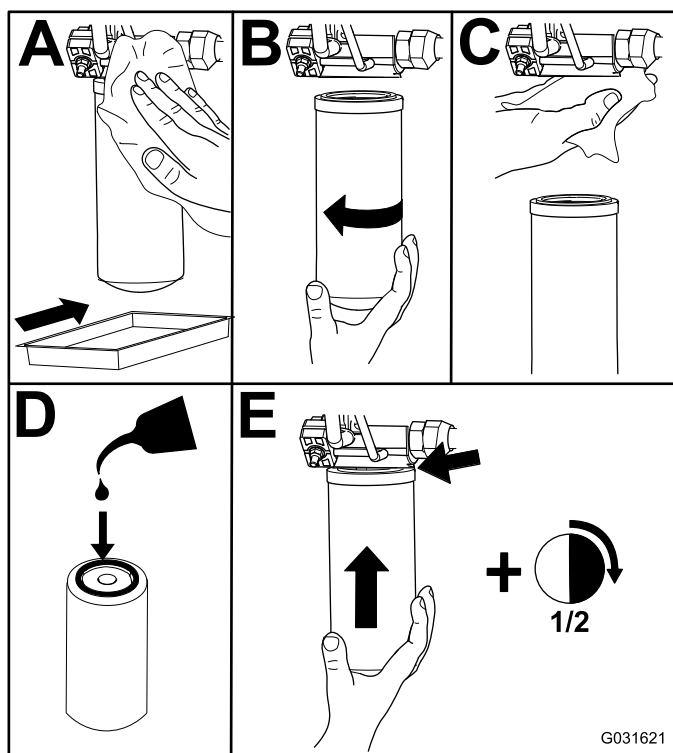

Figure 106
2. Replace the hydraulic filters (Figure 106).